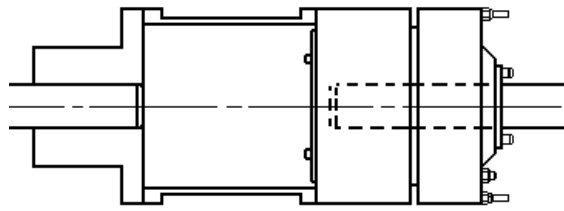

Figure 2
2.1.1 The gap mounting arrangement is illustrated in Figure 2. The CH is pressed onto the driven shaft, and is attached to the driving shaft via the spool. The spool allows installation and removal of the clutch without disturbing the shafts.
The following procedures are for CH elements requiring that the cylinder be mounted prior to the hub, as in gap mounted arrangements (Figure 2). For applications that require the hub be mounted prior to the cylinder, refer to section 2.4.2 of this manual.